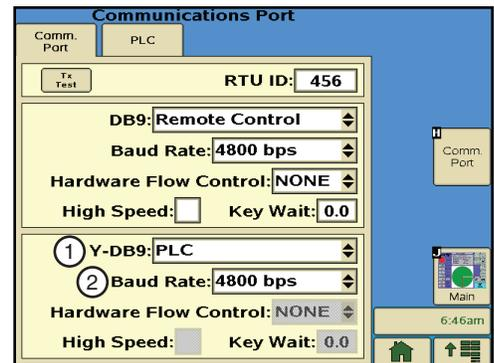

Figure 39-1 1. Y-DB9 Field 2. Baud Rate Field
- (a) From the Main screen, push **Setup (F)** and then **Comm Port (H)**.
- (b) Select the **Y-DB9** field and choose **PLC** from the drop-down list. See Figure 39-1.